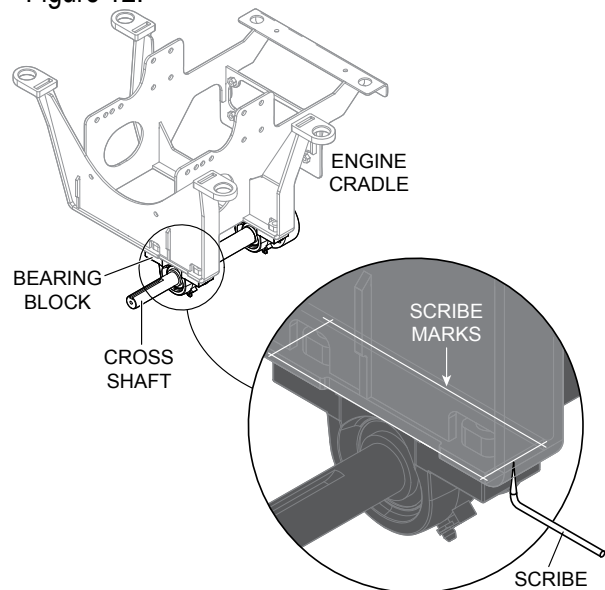

Figure 12. Cross Shaft Scribe Marks
1. It is important to use a scribe to mark the edges of both bearing blocks on the bottom of the engine cradle. See Figure 12.
Make sure to align both bearing blocks with scribe marks on engine cradle. See Figure 12.